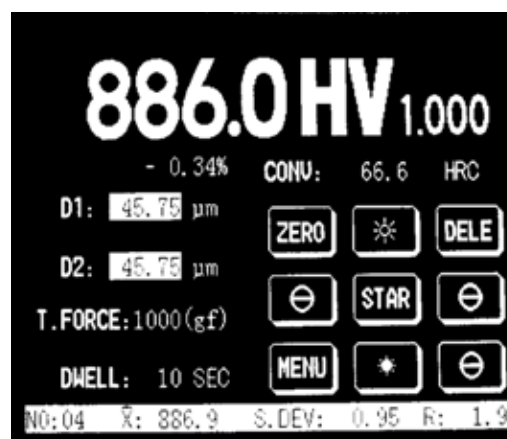

Figure 5-1 MV-102A Main Screen
1. Select "I" on the master switch to turn on the testing machine. The system will beep and display the company logo about 3 seconds as Figure 5-1, which shows that the system is under proper condition. Then the system shows the Main Screen.